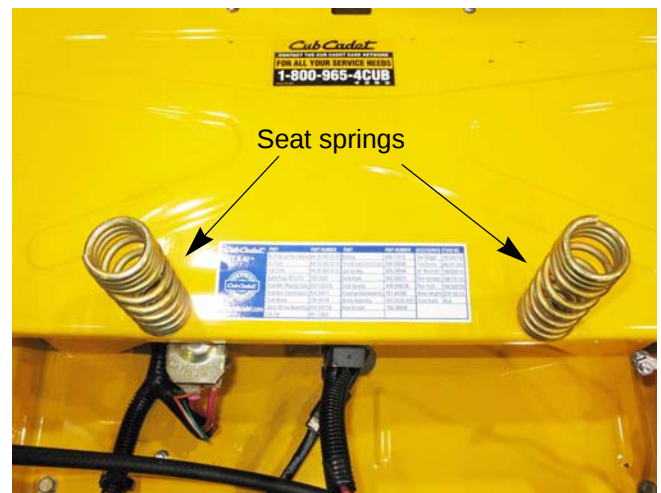

Figure 3.15
7. Remove both of the seat springs using a 1/2" wrench. See Figure 3.15.